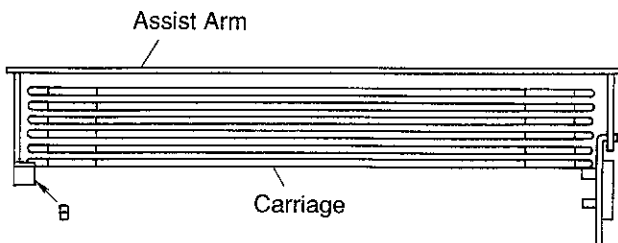

Fig. 2.4.2 Leveling the carriages at the left side
Also, make sure that the lowest carriage is held by the angle "B" of F03 (Assist Arm) as shown in Fig. 2.4.2 so that the carriages are in horizontal position. (Refer to "Leveling the carriages at the left side" in item 2.9.3.)